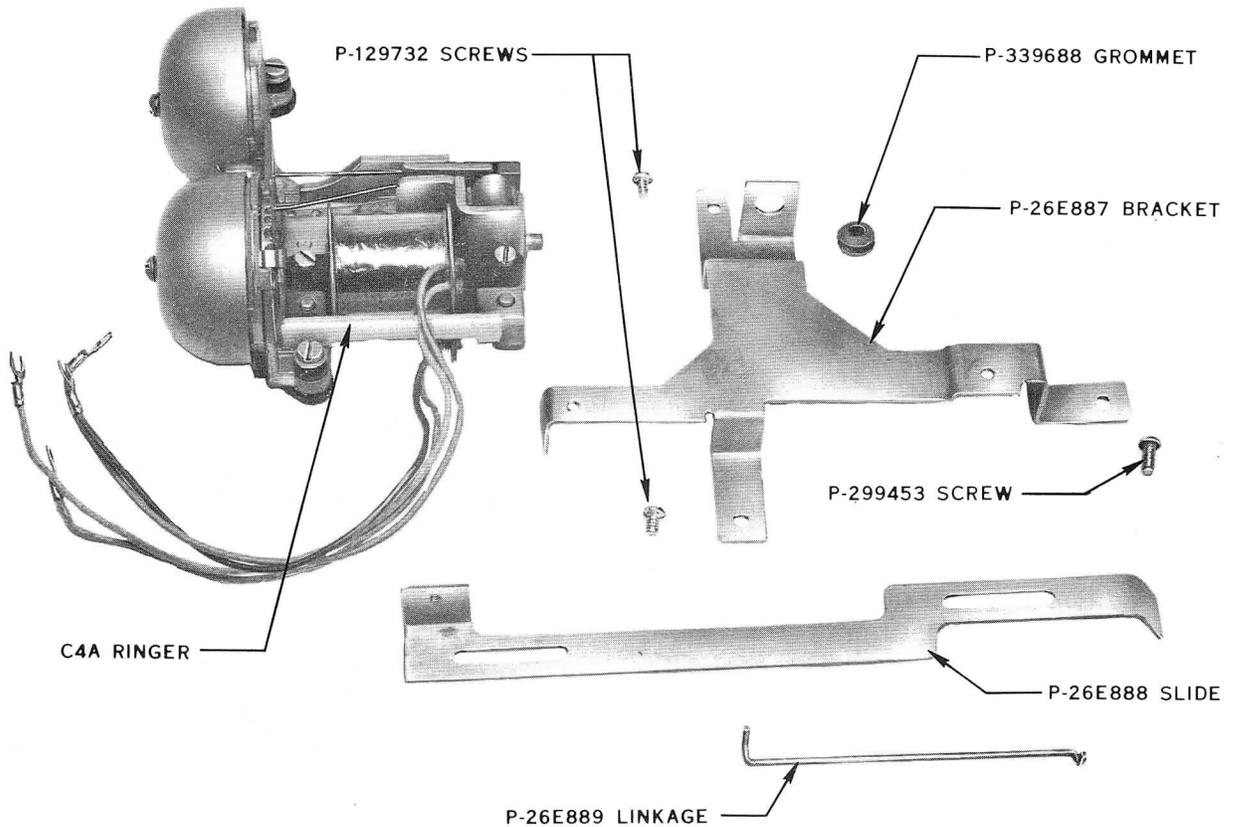

Fig. 8 - D-179948 Kit of Parts for C4A Ringer
2.08 This kit of parts (Fig. 8 and 9) is used for ringer modification of 689A and 689D subscriber sets when customer cannot hear standard D1B ringer. Because of space limitations of 689B, 689C, and 689E subscriber sets, it is necessary to mount an external ringer if standard ringer is not loud enough.